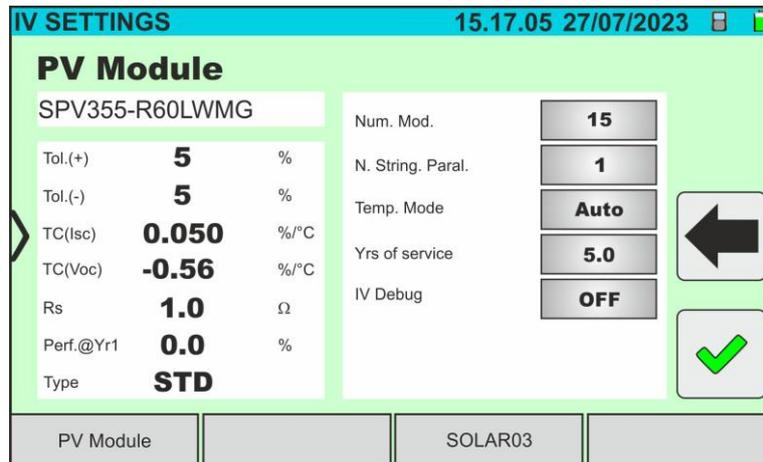

Fig. 37: I-V curve measurement parameter settings
6. Tap on the **"Settings"** key (Monofacial module reference). The following screen is shown in Fig. 37. The following parameters are given: